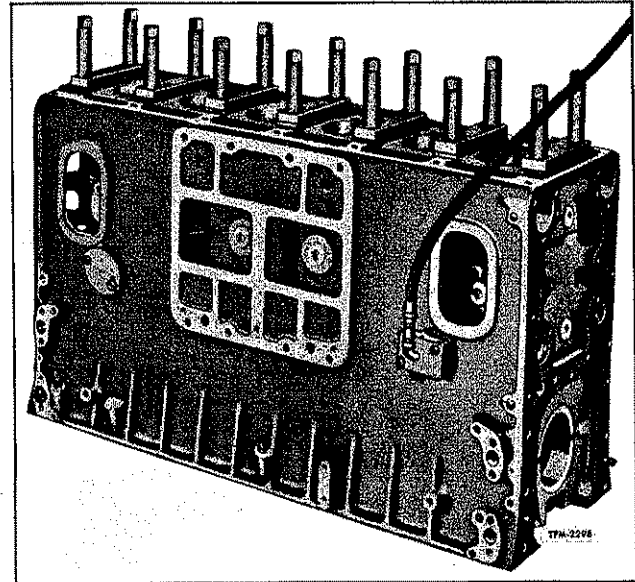

Figure 4—Checking Cylinder Block for Cracks and Leaks
GENERAL INFORMATION**Figure 4—Engine Model and Serial Number Locations**
Figure 4 shows these various arrangements, which are designated by the letter R or L in the model
1. Block off water inlets and outlets so that they are air tight (fig. 4).